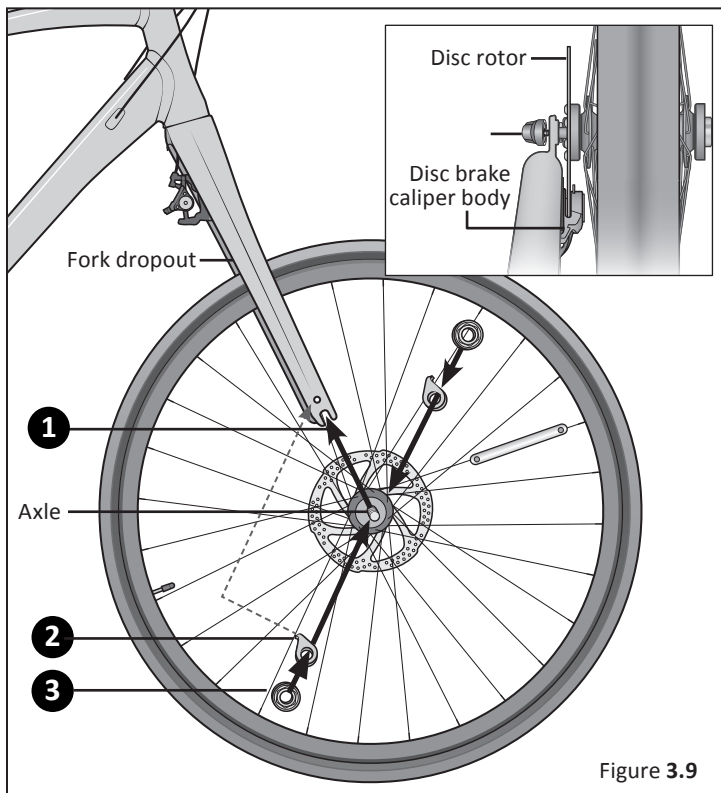

Figure 3.9
- 1 Place the front wheel into the fork openings. Be sure both sides of the axle rest on the fork and the wheel is centered. Figure 3.9